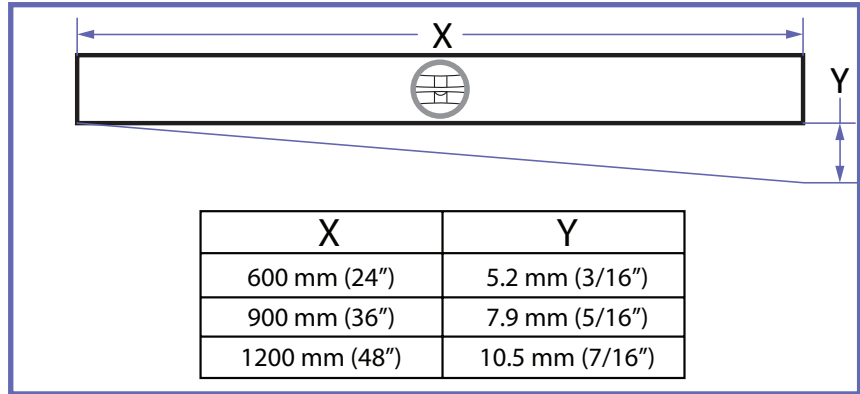

Fig.2
- Floor must have a slope of less than 0.5° . See “Fig.2” to determine the floor slope. Use a level or contact a contractor if unsure of floor slope.